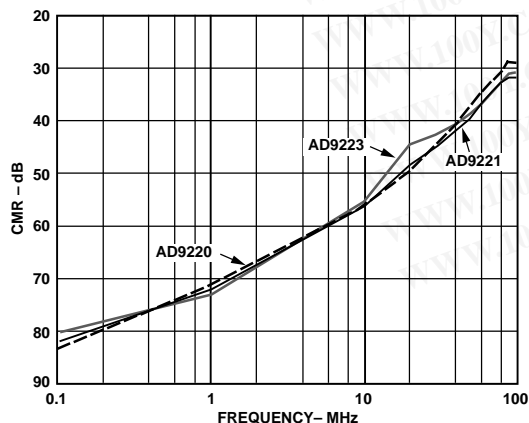

Figure 37. AD9221/AD9223/AD9220 Input CMR vs. Input Frequency
amps which may otherwise have been constrained by headroom limitations, (3) Differential operation minimizes even-order harmonic products, and (4) Differential operation offers noise immunity based on the device's common-mode rejection. Figure 37 depicts the common-mode rejection of the three devices.